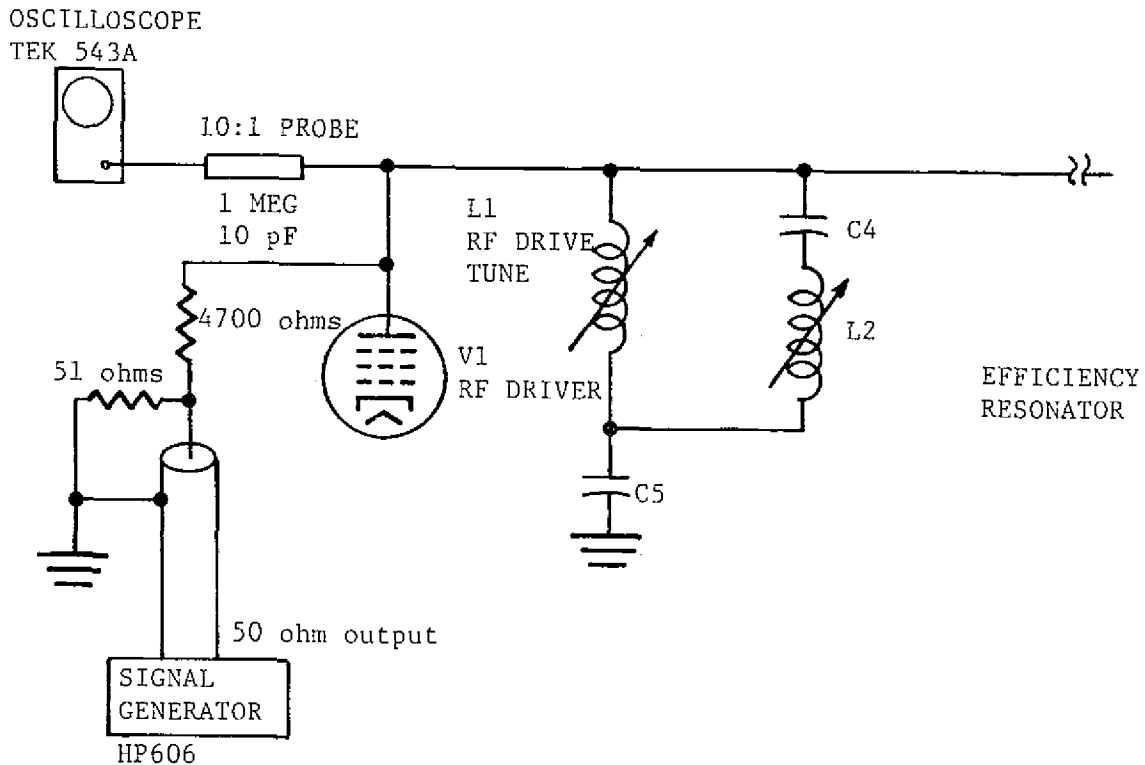

Figure 5-3. Test Setup for RF Driver Plate and PA Grid Efficiency Resonator Adjustment
5-43. An ac power cable and dummy load which mates J1 on the oscillator chassis is provided with the transmitter (HARRIS P/N 992 2222 001) to assist bench check and alignment of the oscillator assembly, refer to figure 5-3. Connections to plug J1 pins, 1 and 3, 2 and 4, provide primary power for the oscillator power supply. Capacitor C1 and resistor R1 provide an oscillator load which simulates the rf driver grid circuit.
- b. Connect test equipment as shown in figure 5-3.